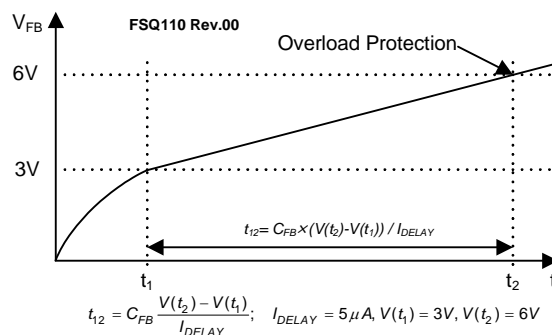

Figure 15. Overload Protection (OLP)
4.1 Overload Protection (OLP): Overload is defined as the load current exceeding a pre-set level due to an unexpected event. In this situation, the protection circuit should be activated to protect the SMPS. However, even when the SMPS is operating normally, the OLP circuit can be activated during the load transition. To avoid this undesired operation, the OLP circuit is designed to be activated after a specified time to determine whether it is a transient situation or a true overload situation. In conjunction with the I_{PK} current limit pin (if used), the current mode feedback path limits the current in the SenseFET when the maximum PWM duty cycle is attained. If the output consumes more than this maximum power, the output voltage (V_O) decreases below nominal voltage. This reduces the current through the opto-coupler LED, which also reduces the opto-coupler transistor current, increasing the feedback voltage (V_{FB}). If V_{FB} exceeds 3V, the feedback input diode is blocked and the 5µA current source (I_{DELAY}) starts to slowly charge C_{FB} up to V_{CC} . In this condition, V_{FB} increases until it reaches 6V, when the switching operation is terminated, as shown in Figure 15. The shutdown delay time is the time required to charge C_{FB} from 3V to 6V with 5µA current source.